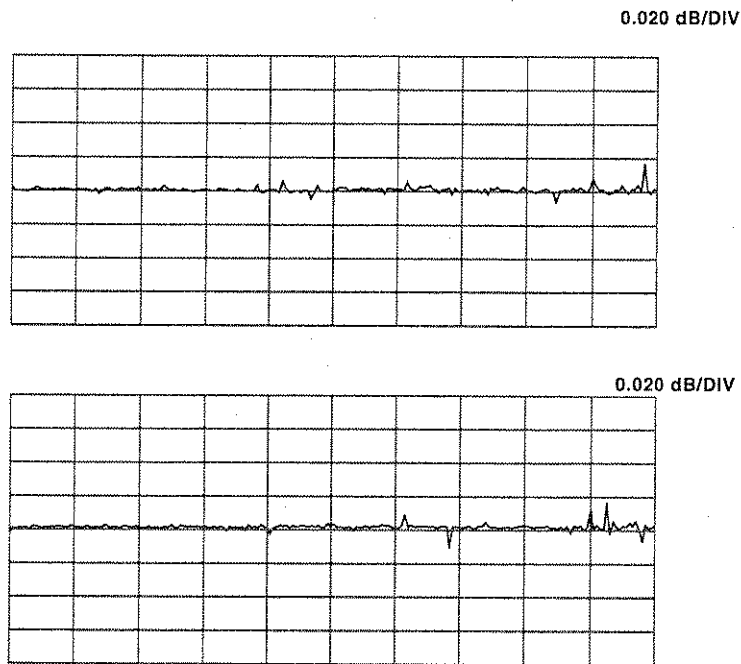

Figure 11-4. High Level Noise Test Waveform
- Step 5.** Choose **VIEW DATA** (Figure 11-4) from menu and press Enter key.
- Step 10.** Verify that the peak-to-peak High Level Noise falls within the area between the two limit lines (Figure 11-4).